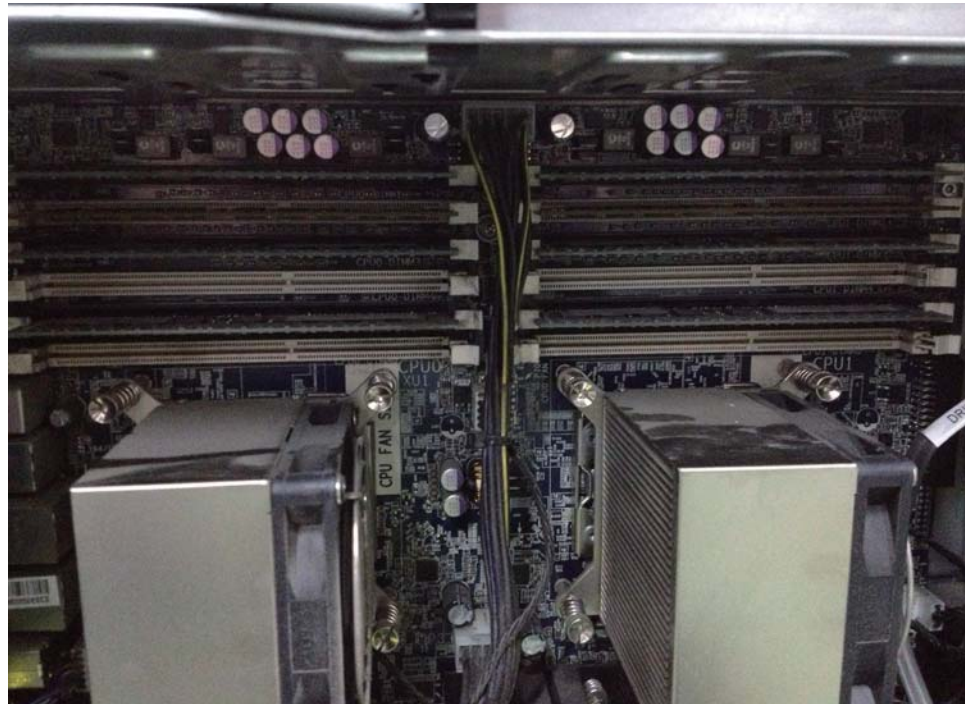

Figure 2-7 New Memory Installation
- 5.) Install the memory with new 4Gx8. Align the memory keyway with the slot key, and firmly seat the memory in the slot as shown Figure 2-7.